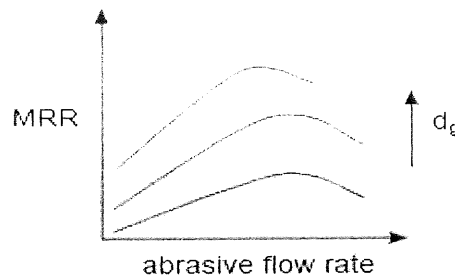

Figure 3: MRR of abrasive jet machining.
- b) The graph in Figure 3 shows the phenomenon occurs in abrasive jet machining. **Interpret** the relationship between material removal rate and abrasive flow rate as shown in the figure.
- d) **State** three (3) advantages and three (3) drawbacks resulting from the abrasive jet machining process.